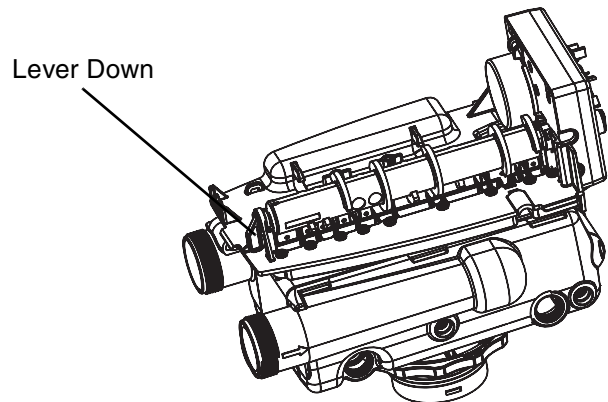

Figure 11
3. The control should be in service position (Figure 11).